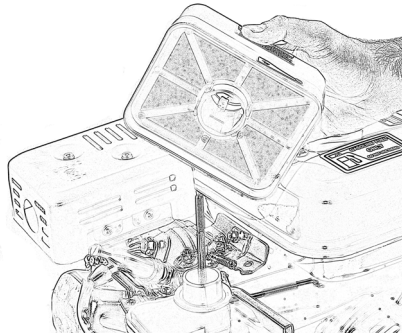

Figure 20
- Open the wing nut on top of the air filter housing and pull the housing upwards, Fig. 20.